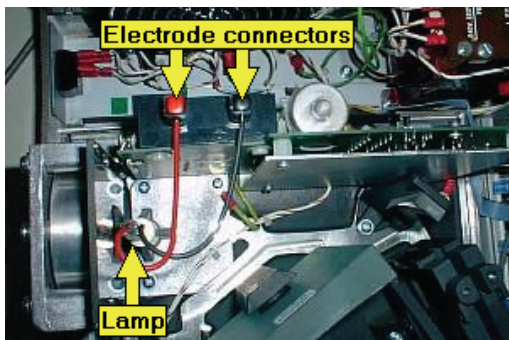

Figure 124 Locating the parts
5. Locate the lamp and the two electrode connectors, as shown in Figure 124.